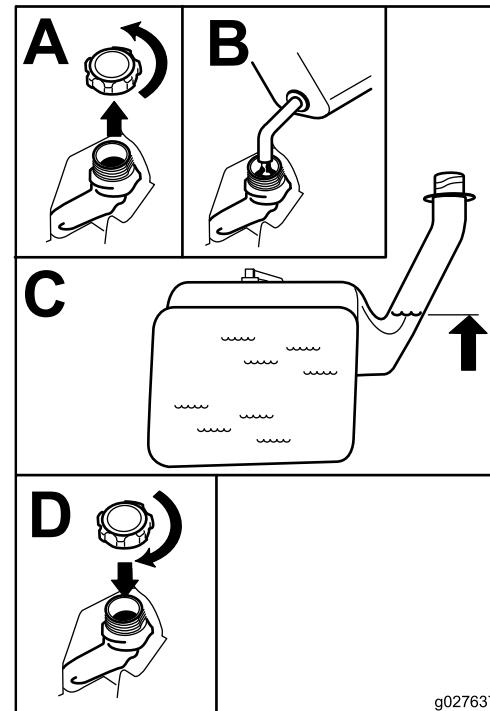

Figure 7
2. Slowly add regular, unleaded gasoline until the fuel reaches the base of the filler neck (Figure 7).